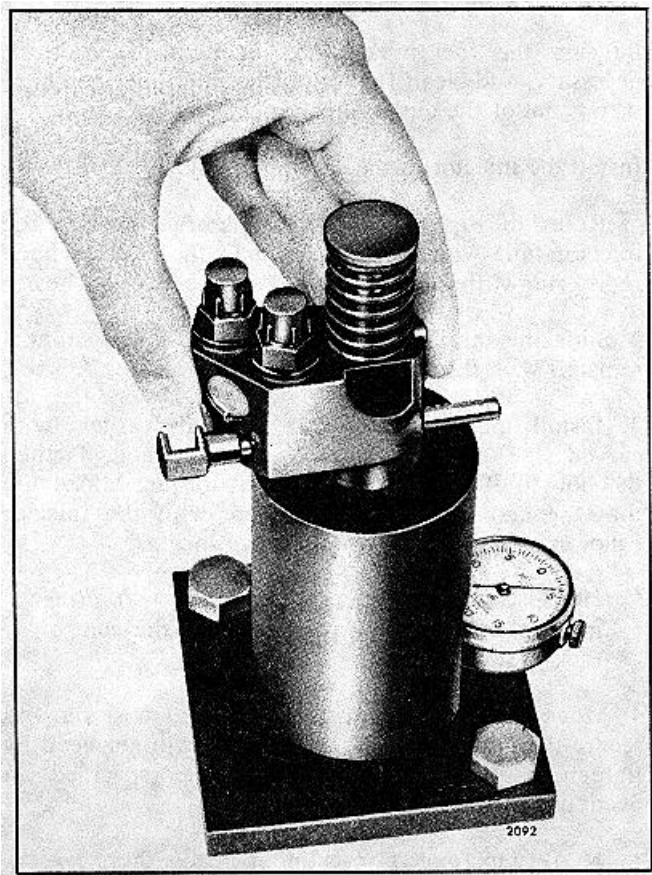

FIG. 43 Checking Injector Spray Tip Concentricity using Tool J 5119
1. Place the injector in the concentricity gage J 5119 as shown in Fig. 43 and adjust the dial indicator to zero.